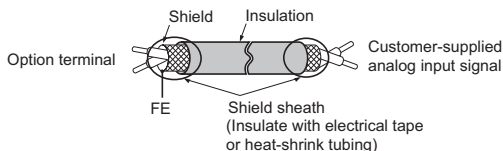

Figure 16 Prepare Ends of Shielded Cable
- Prepare the wire ends as shown in **Figure 16**.